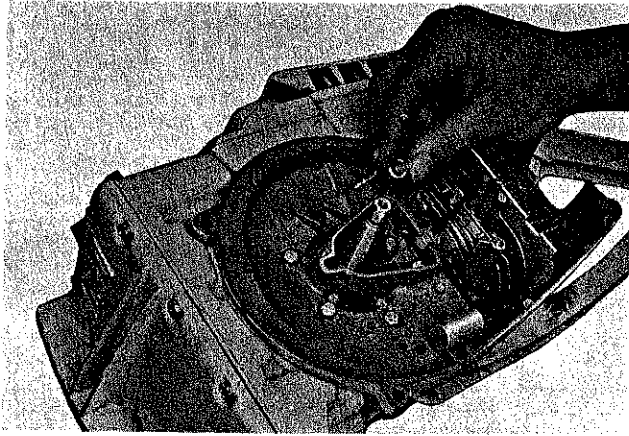
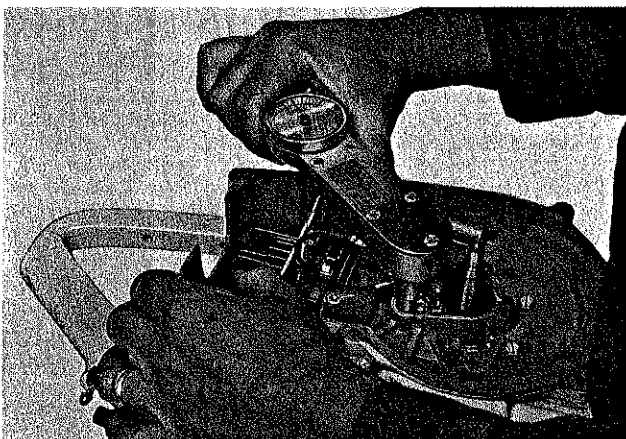

Figure X-29. The crankcase cover is attached to the crankcase with six screws. Two of these, which are inside the breaker point box, are sealing screws.
Figure X-30. Using a torque wrench to tighten the crankcase cover screws.
7. Install the assembled crankshaft and crankcase cover assembly in the crankcase cylinder. Press the assembly into position by hand or by using an arbor press, and install five of the six crankcase cover attaching screws. (Figure X-29) Do not install the sixth screw (breaker box retaining screw) at this time. Using a torque wrench, tighten the five screws to a torque value of 60 to 65 inch-pounds (5 to 5-1/2 foot-pounds) (0.69 to 0.75 mkg). (Figure X-30) Turn the crankshaft several revolutions to make sure that it turns freely and smoothly without drag or binding. Remove the oil seal protector sleeve.